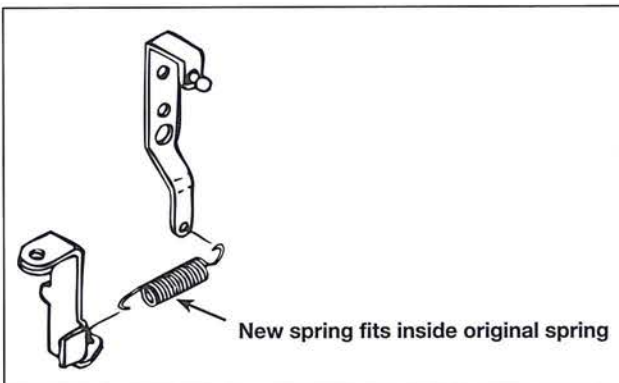

Fig. 15
- a. **For '94 - '96 vehicles:** Add a second fuel pump return spring to the existing spring as shown in Fig. 15. The new spring fits in the center of the existing spring. Detach the spring from the pump and add the second spring to the center of the existing spring. Replace the two springs onto the fuel pump in the original location.